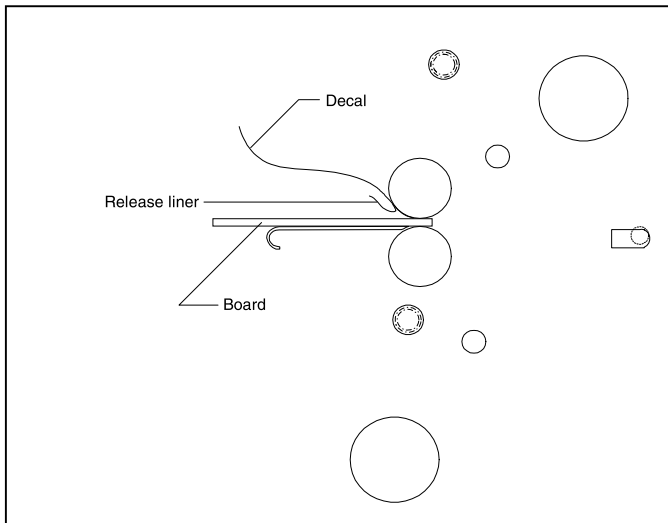

Fig. 33
#### TIPS FOR MOUNTING A DECAL (Figure 33)
1. Load the laminator as illustrated in Figure 33.